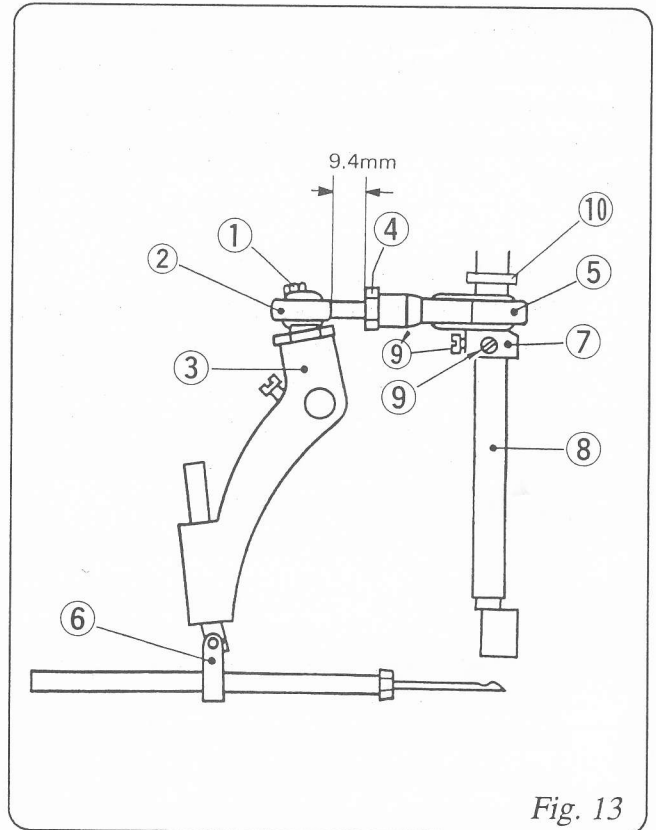
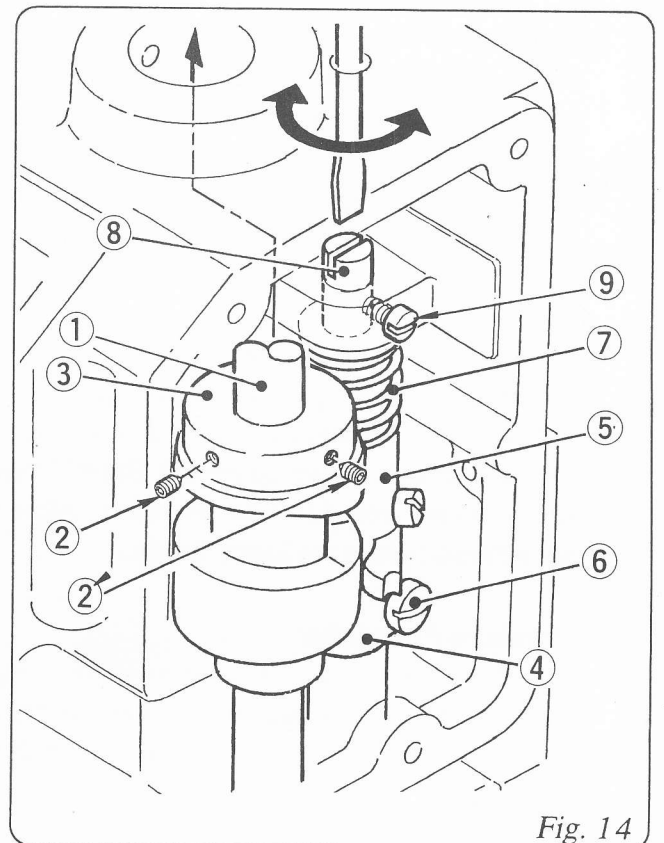

Fig. 13
Fig. 14
For replacement or adjustment of Ball Rod, refer to Fig.13.
To fix Eccentric Cam ⑦ on Main Shaft ⑧, tighten the Screws ⑨ and ⑨ on Main Shaft ⑧ (Eccentric Cam ⑦ should contact Spacer ⑩ slightly.). The position of Needle is adjusted so that the distance between the point of Needle (at its highest position) and Throat Plate is 13 mm, after loosening screw on Needle Bar Connection Assembly ⑥ in Fig.13.
① Screw 11/64S40084
② Rod End 6A04001
③ Needle Bar Lever 242051A
④ Nut 1N8
⑤ Connecting Rod Assembly 242011A
⑥ Needle Bar Connection Assembly 242101A
⑦ Eccentric Cam (part of Connecting Rod Assembly) 242011
⑧ Main Shaft 241102
⑨ ⑨ Screw 11/64S40001
⑩ Spacer 241161
Adjust Looper Drive Cam ③ When necessary as follows: (Refer to Fig.14.).
a) Apply the Screws ② and ② on the taper of Main Shaft ①.
b) Adjust Arm (B) ④, so that Looper Drive Cam ③ and Arm (A) ⑤ move smoothly. After adjusting, fix the Screw ⑥ tightly.
c) The clearance between Looper Drive Cam ③ and Arm ⑤ is effected by Spring ⑦. Loosen Screw ⑨ and turn Spring Supporter ⑧ to adjust the pressure of Spring ⑦. After adjusting, tighten the Screw ⑨ to fasten Spring Supporter ⑧.
① Main Shaft 241102
② ② Screw 15/64S28524
③ Looper Drive Cam 243012
④ Looper Rocker Shaft Arm (B) 243081
⑤ Looper Rocker Shaft Arm (A) 243071
⑥ Screw for Looper Rocker Shaft Arm (B) 11/64S40009
⑦ Spring 243131